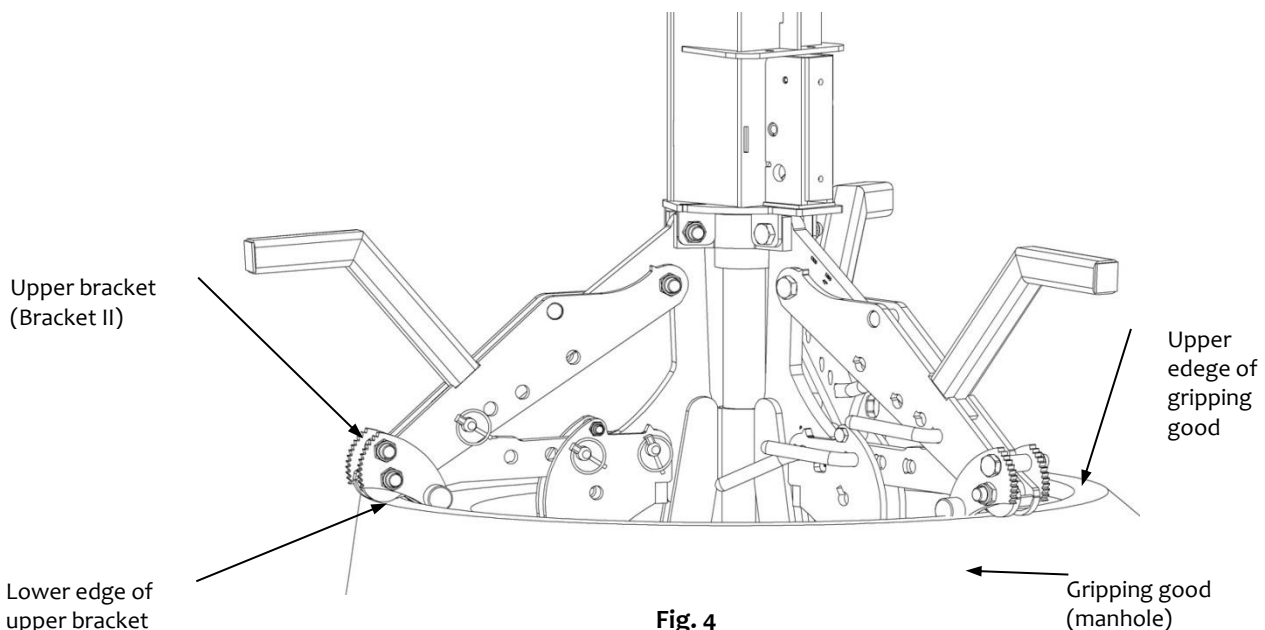

Fig. 4
- Position bracket holder at the respective nominal width 800 (Fig. 4).
All three stabilizers of the device must **always** rest on the upper edge of the gripping good (manhole/cone)! (see Fig. 4)